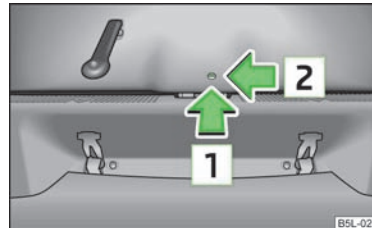

Fig. 17
- Insert a screwdriver or similar tool into the opening in the trim in the direction of the arrow [1] » Fig. 17 as far as the stop.